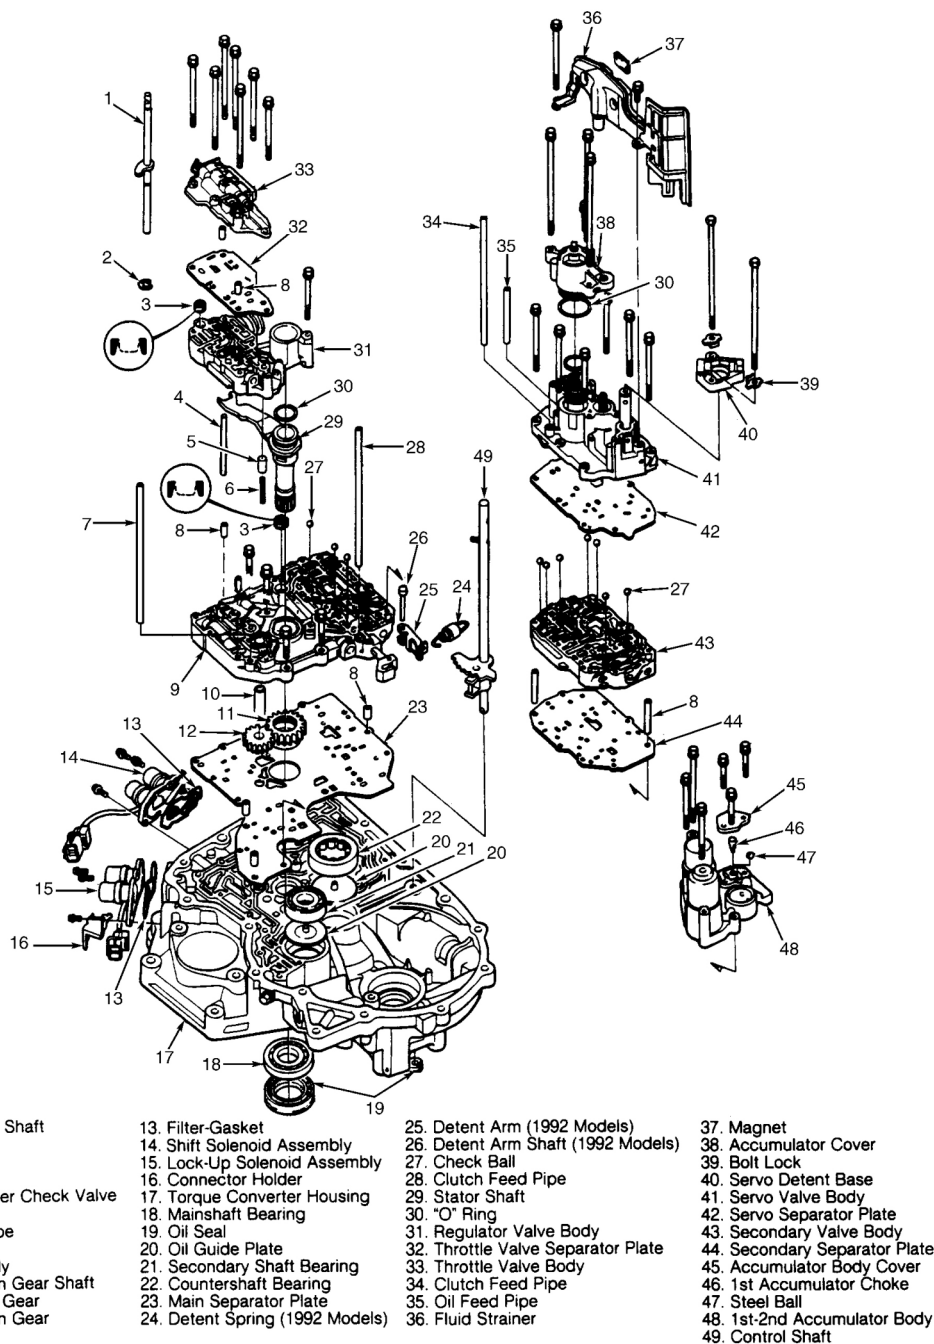

Fig. 11: Exploded View Of Torque Converter Housing & Components
12. On all models, remove cable control lever from end of control shaft. Remove bolt, bolt locks and servo detent base. See **Fig. 11** . Remove bolts and fluid strainer.
13. Remove clutch feedpipe from servo valve body. Remove bolts and accumulator cover. See **Fig. 11** . Remove oil feedpipe from servo valve body. Remove bolts, servo valve body and servo separator plate.
14. Remove secondary valve body and secondary separator plate. Use care not to lose check balls in secondary valve body. See **Fig. 11** . Remove bolts, throttle valve body and throttle valve separator plate.
16. On 1992 models, remove detent arm shaft, detent arm and detent spring. See **Fig. 11** . On all models, remove clutch feedpipes from main valve body. Remove control shaft from torque converter housing.